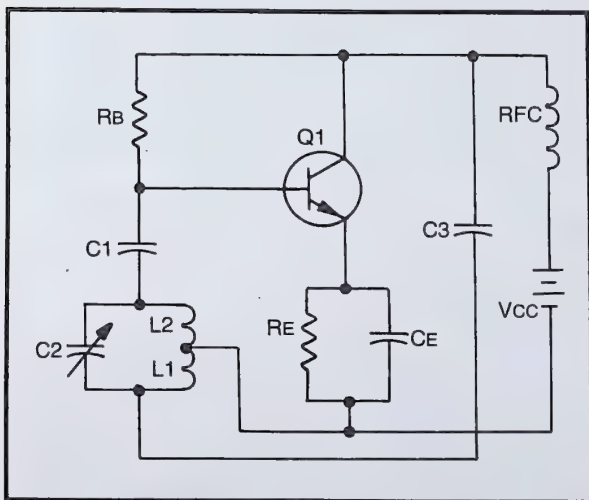

Fig. 3-25. Transistorized shunt-fed Hartley oscillator schematic.
The main disadvantage of the series fed Hartley oscillator is that a relatively large value of direct current flows through the feedback portion of the tank coil. This disadvantage may be overcome by a variation of the connection of the feedback coil, isolating it from the DC component of emitter current by capacitors C1 and C3 as shown in Fig. 3-25. The oscillator derives its name from the fact that the feedback component (1) is connected in shunt rather than in series with the power supply. By preventing the emitter current from flowing in the feedback winding, the stability of the oscillator is improved. Also, if emitter current were flowing through the feedback section of the tank coil, there might be a requirement for L1 to be designed differently than L2. These problems are not encountered with the shunt fed Hartley oscillator.